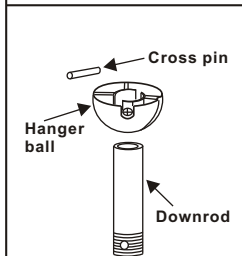

Figure 7
Step 3. Remove the hanger ball from downrod assembly by loosening the set screw, removing the cross pin, and sliding the ball off rod. (Fig.7)